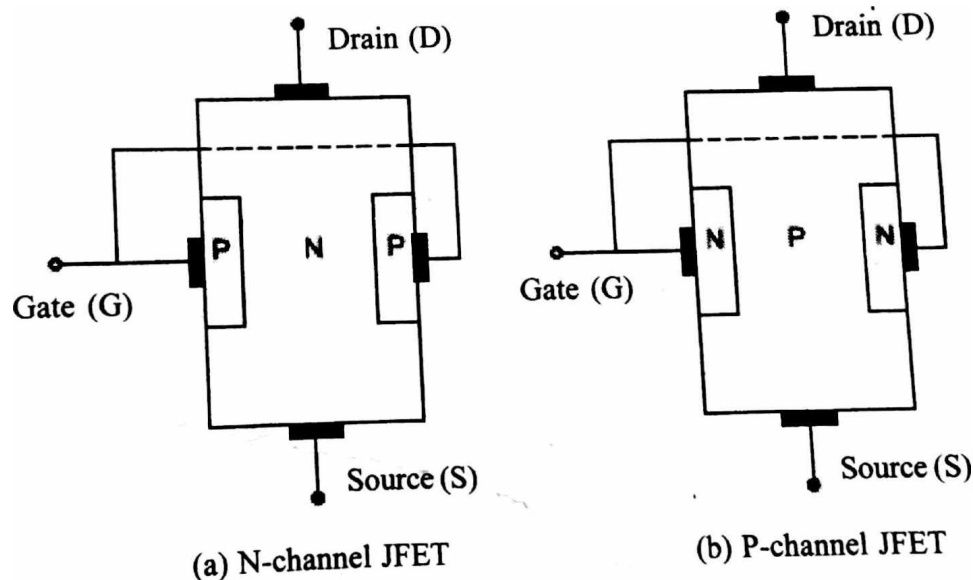

Fig. 4.71
A JFET consists of a P -type or N -type silicon bar containing two PN junctions on the sides as shown in the Fig. 4.71. The bar forms the conducting channel for the charge carriers. If the bar is of N -type, it is called N -channel JFET as shown in Fig. 4.71(a) and if the bar is of P -type, it is called a P -channel JFET as shown in Fig. 4.71(b). The two PN junctions forming diodes are connected internally and a common terminal called gate is taken out. Other terminals are source and drain taken out from the bar shown. JFET has three terminals gate (G), source (S) drain (D).